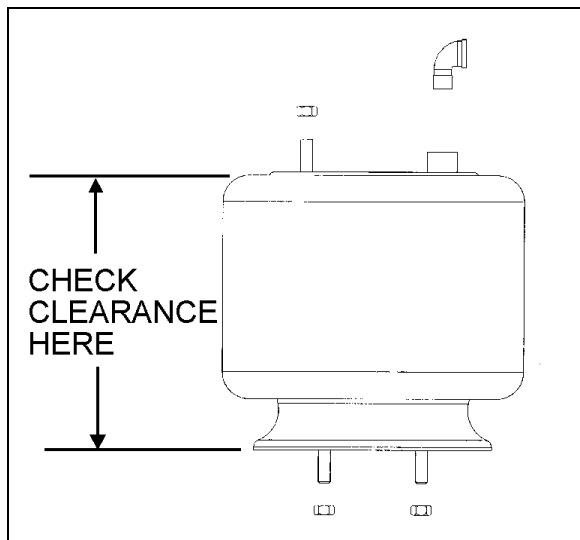

FIGURE 24: TYPICAL AIR SPRING CLEARANCE 16058
The appropriate vehicle body height is obtained by measuring the clearance of all the air springs installed on the vehicle. The two front air springs clearance should be  $11 \pm \frac{1}{4}$ " ( $279 \pm 6$  mm). Refer to figure 24 to identify the correct area to take measurement. The rear air springs clearance should be  $11 \frac{1}{2} \pm \frac{1}{4}$ " ( $292 \pm 6$  mm).
The measurement should be taken from underneath the upper air spring support on subframe to top of the lower air spring support on axle (refer to figure 24 for more details). If adjustment is required, begin with the drive axle.
*The measurement should be taken from underneath the upper air spring support on subframe to top of the lower air spring support on axle (refer to figure 24 for more details).*